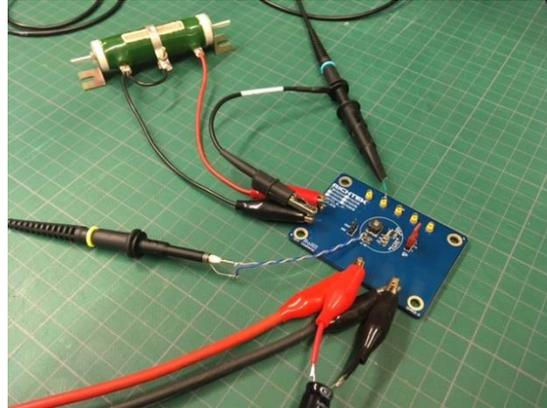

Figure 20
7.3 Third measurement setup with twisted wire: (Figure 20)